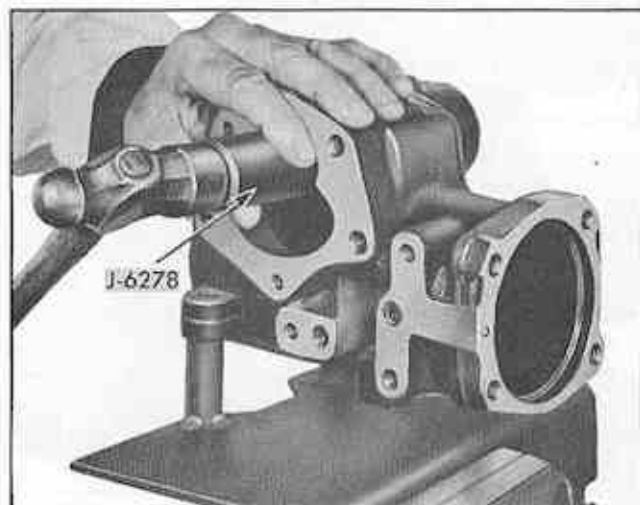

Fig. 46 Removing or Replacing Pitman Shaft Bushing
1. With steering gear housing supported in Holding Fixture J-5205, drive pitman shaft bushing from housing using Tool J-6278 (Fig. 46).